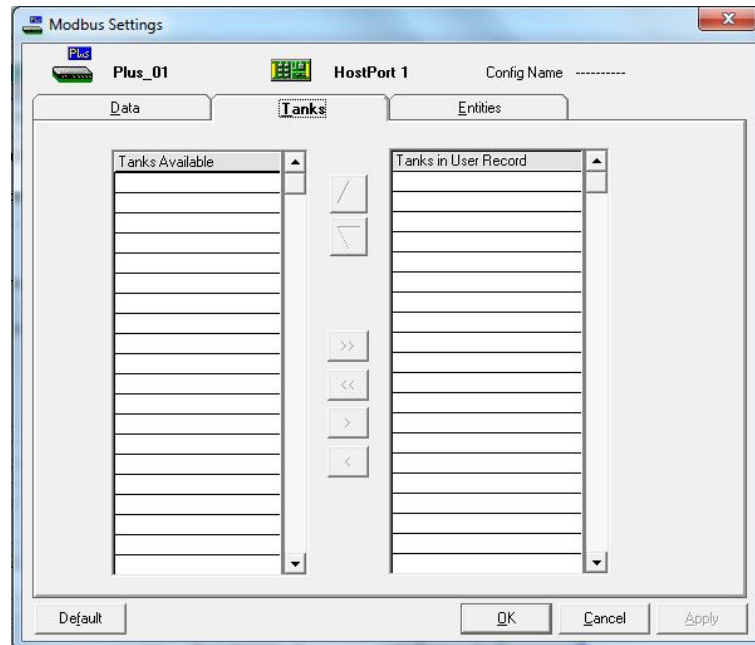

FIGURE 2-9
- Go to the **Tanks** tab (See FIGURE 2-9). You can arrange the order of tanks using the arrow options. The order can be decided based on the priority on which you want to view the tank details.